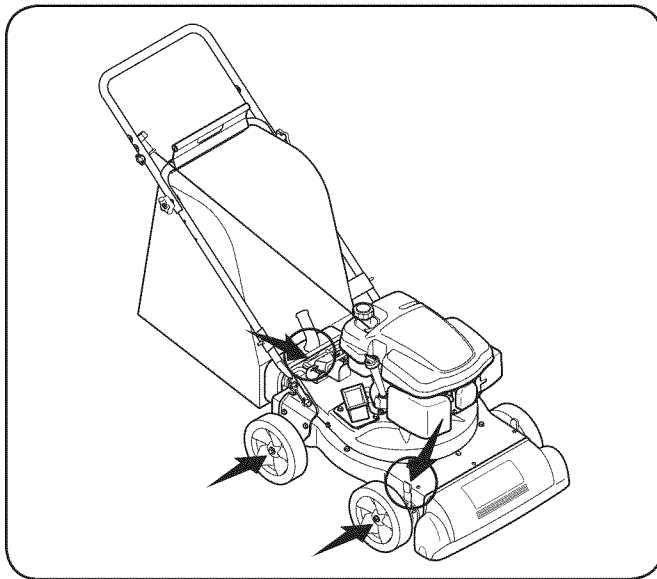

Figure 6-1
2. Lubricate the pivot points of the nozzle height adjustment levers once a season with light oil. See Fig. 6-1.